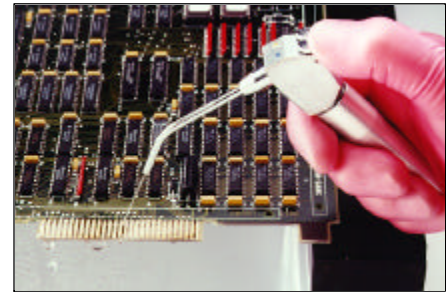

Figure 4: Rinse the area with water. A water/air sprayer provides a full water flush.
7. Thoroughly rinse the entire area with water. (See Figure 4).